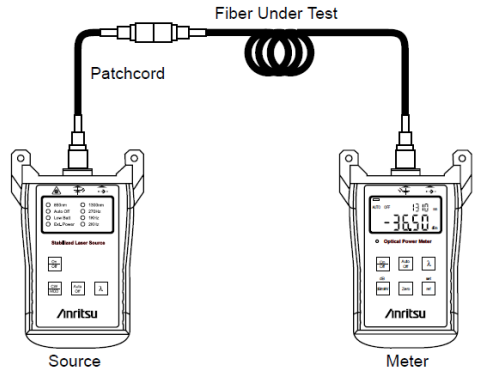

Figure 5 Optical Loss Measurement Setup
5. Reconnect the patchcord attached to the CMA5 Series Light Source to the fiber under test. Connect the power meter to the other end of the fiber under test (See Figure 5).